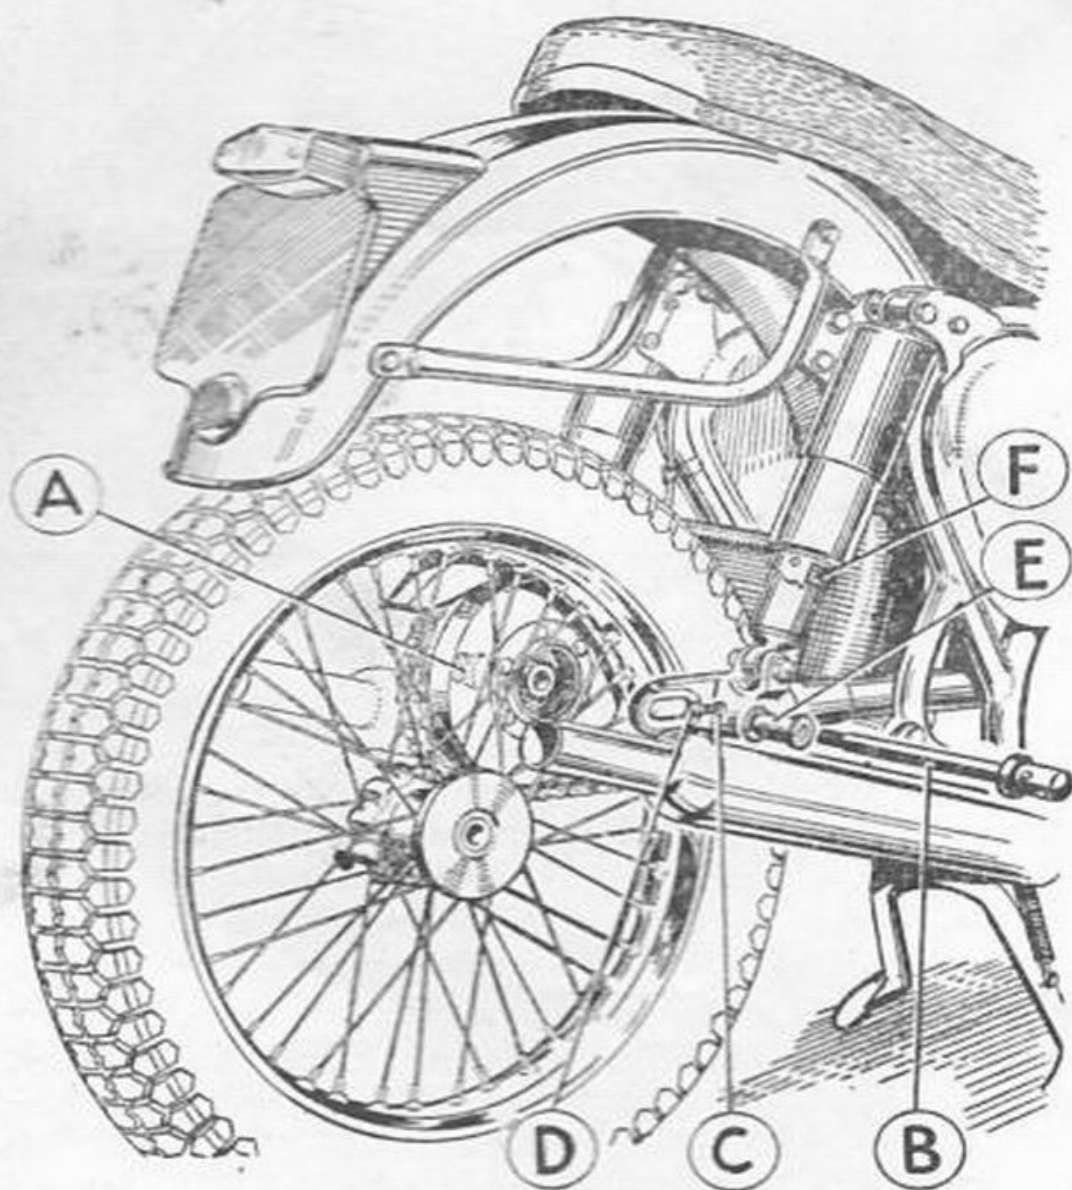

Fig. 16. Rear Chain Adjustment
*Set the machine on its stand.* The rear wheel must be in its lowest position in the suspension unit, for the purposes of this adjustment. (See Fig. 16).
To remove the wheel spindle, insert a tommy bar of suitable dimensions into the head of the spindle at *B* (Fig. 16), and turn in an anti-clockwise direction.